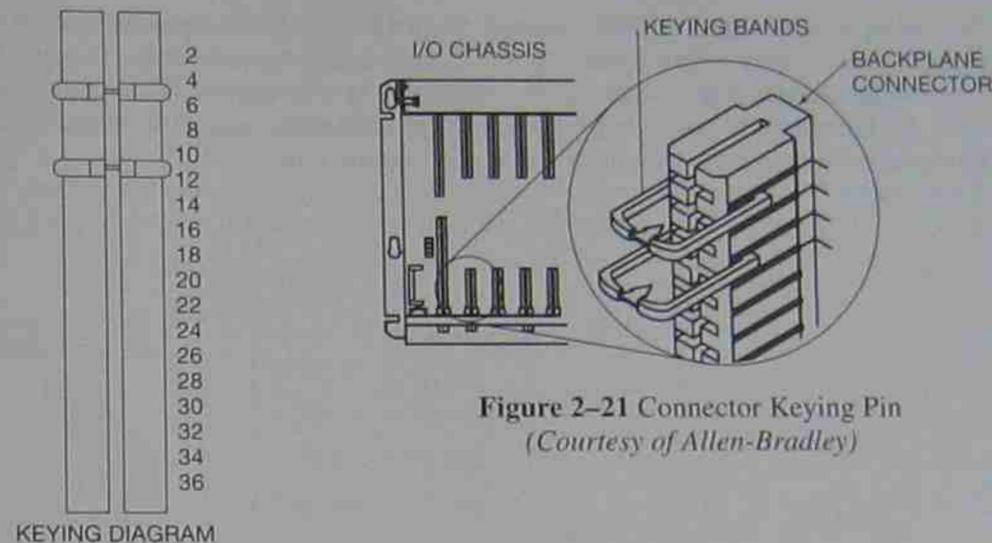

Figure 2-20 Backplane Connector Keying Diagram
Figure 2-19 shows an Allen-Bradley 240 V AC output module. This AC output module looks just like the AC or DC input module discussed earlier (Figure 2-8). This is not only true for Allen-Bradley modules, but also for other manufacturer's products as well. In all instances, the manufacturer's label and/or color codes the fronts of all modules to distinguish between the different types (AC input, DC output, TTL, Analog, and so on). Most manufacturers have designed each module so it can be **keyed**. In Figure 2-19, item 6, the module has been notched in two places. Installing keying bands on the Allen-Bradley I/O rack backplane connector (Figure 2-20) where a specific module is to be installed prevents any module, other than the type for which the connector is keyed, from being installed in that connector or slot. Figure 2-21 shows a close-up view of what the keying band looks like and how it is installed. Each type of module has a unique combination of notches. This feature prevents inadvertent or accidental replacement of the wrong type of module, say an input module, into a slot that is already wired to output devices. To prevent damage and downtime, it is important that the keying system be used.